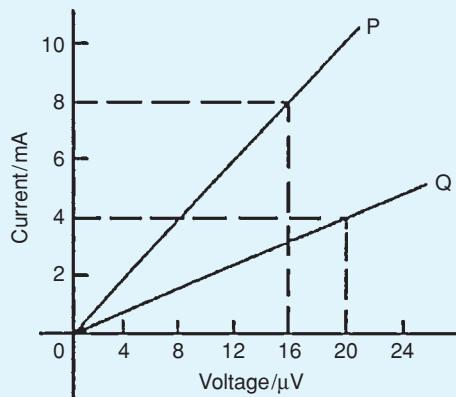

Figure 2.9
- Graphs of current against voltage for two resistors P and Q are shown in Fig. 2.9. Determine the value of each resistor. [2 mΩ, 5 mΩ]